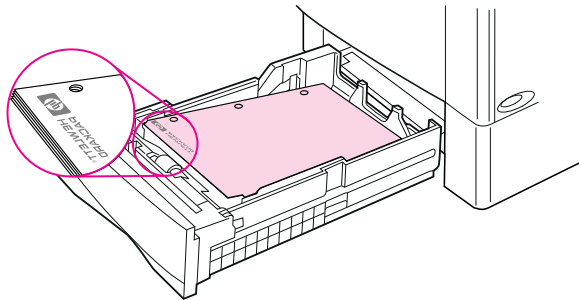

Figure 11 Paper Orientation for All Other Trays
- Load labels in Tray 1 with the side-to-be-printed facing up, and the top, short edge toward the printer. For orientation in other trays, see Figure 11 on page 36.
- A stack of 50 to 100 transparencies can be printed from other trays. Because transparencies are heavier than paper, do not load the other trays to capacity. For orientation in other trays, see Figure 11 on page 36.